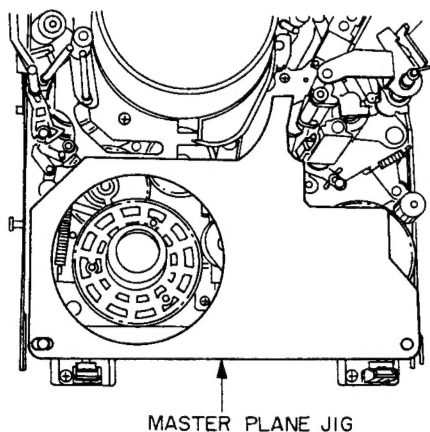

Fig.3-21
- b) Set the MASTER PLANE jig (U2) onto the MECHA. chassis as shown in Fig.3-21.
4. Reassemble the A/C HEAD BLOCK and (S) nut in the reverse order.
5. Attach the MASTER PLANE (U2) jig (the loading mechanism must be set in the loaded position before attachment, refer to Fig.3-21).
6. Adjust the GR LEVER ROLLER height by turning the (S) nut so that the lower edge of the GR LEVER ROLLER is within the (A) level and (B) level of the HEIGHT CHECK SQUARE as shown.